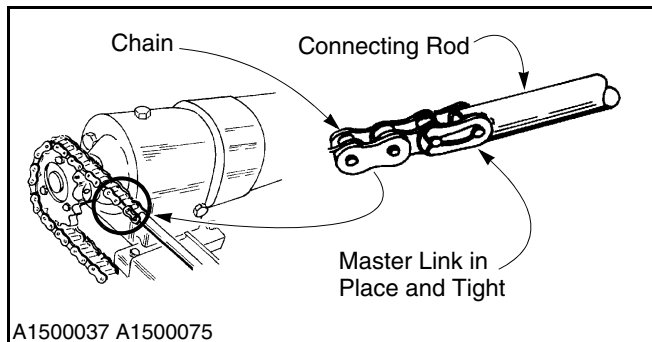

Figure 14
4. Make sure the master link between the drive chain and each connecting rod is securely fastened. (See Figure 14.)